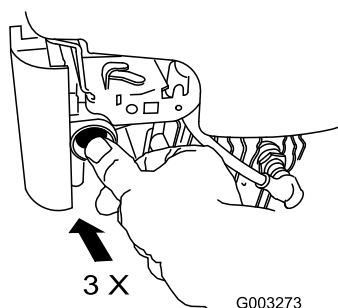

Figure 18
2. Firmly push in the primer 3 times with your thumb, holding the primer in for a second before releasing it each time (Figure 18).